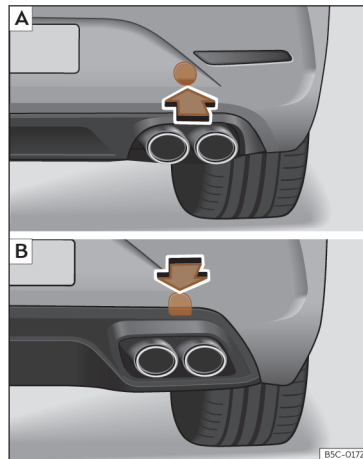

Fig. 217 Rear bumper on right: remove the lid. **A**) Leon Sportstourer; **B**) Leon.
The housing of the screw towing eye is on the right side of the rear bumper behind a lid >>> **Fig. 217**.
- *Leon Sportstourer*: Press the lower side of the lid >>> **Fig. 217 [A]** to unclip it.
- *Leon*: Press the upper side of the lid >>> **Fig. 217 [B]** to unclip it.
- Screw the towing eye in the housing by turning it to the maximum **anticlockwise** >>> **Fig. 217**, >>> **Fig. 217**. Use a suitable object that can completely and securely tighten the towing eye in its housing.